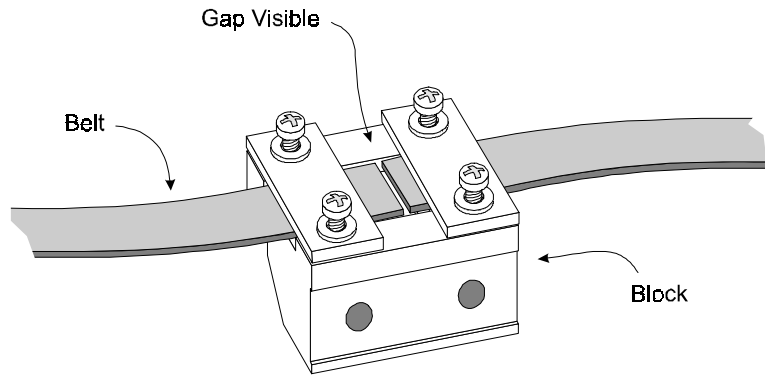

Figure 2-8. Belt Block With Belt In Place
9. Loosen the four screws that hold the belt retaining plates to the block. Slide the ends of the belt under the plate until they engage the teeth on the block. Both ends of the belt should be visible through the gap between the plates as shown in Figure 2-8. Set the belt so there is only a small space between the ends of the belt (approximately 1/32").
6. Referring to Figure 2-8, loosen the four screws on the belt block far enough to pull the ends of the belt free of the block. Pull the belt free of the motor drive assembly and the base section and set the belt aside.